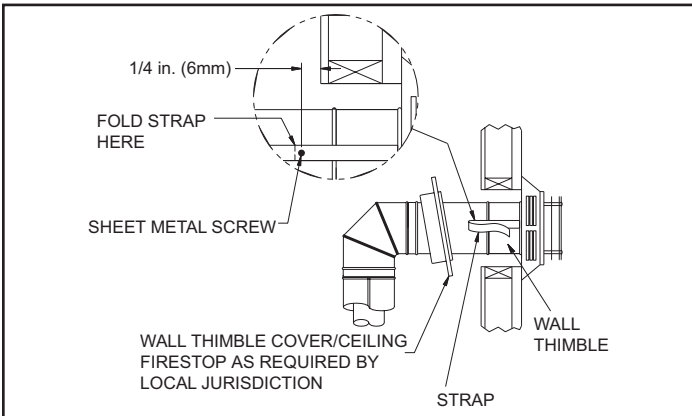

Figure 5.9
**Step 5** - Place the wall thimble cover over the pipe assembly and slide the appliance and vent assembly towards the wall, carefully inserting the vent pipe into the vent termination cap assembly. It is important that the vent pipe extend into the vent termination cap a sufficient distance so as to result in a minimum pipe overlap of 1-1/4 in. (32mm). Secure the connection between the vent pipe and the vent termination cap by attaching the two sheet metal strips extending from the vent termination cap assembly into the outer wall of the vent pipe. Use the two sheet metal screws provided to connect the strips to the pipe section (Figure 5.9).